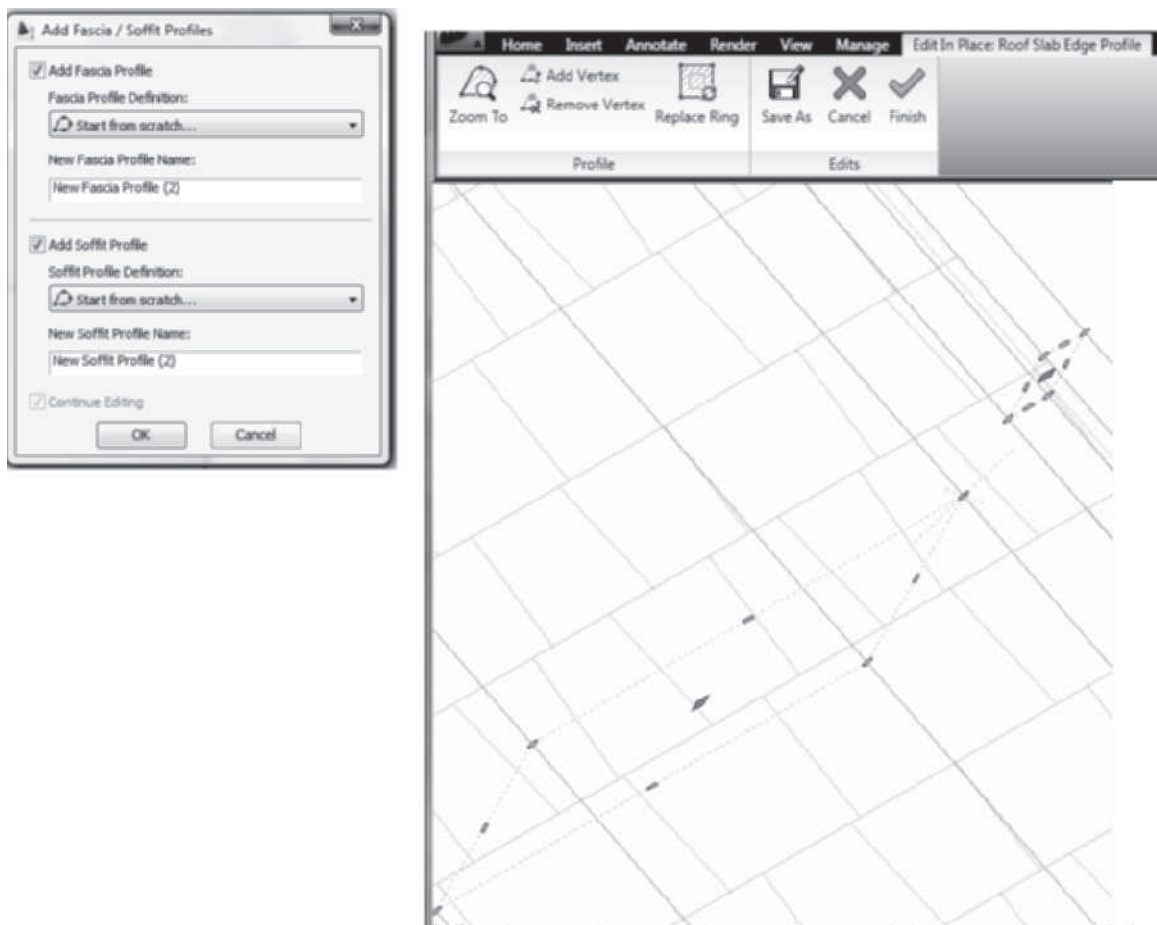

FIGURE 7.58 Add Fascia/Soffit Profiles dialog box and In-Place Edit of profile
4. Click **OK** to dismiss the Edit Roof Slab Edges dialog box and open the **Add Fascia/Soffit Profiles** dialog box. Select a profile from the drop-down lists of profile definitions or choose **Start from Scratch** as shown in Figure 7.58. You can type a name in the **New Fascia Profile Name** field to specify a name for the new profile. The content of this dialog box is dependent upon the profiles defined for the edge.
5. Click **OK** to dismiss the Add Fascia / Soffit Profiles dialog box, and the Edit **In-Place: Roof Slab Edge Profile** tab is displayed as shown at the right in Figure 7.58.
7. Select a grip on the profile and stretch the grip to a new location, or choose one of the following from the Profile panels: **Add Vertex**, **Remove Vertex**, or **Replace Ring** as shown in Figure 7.58.